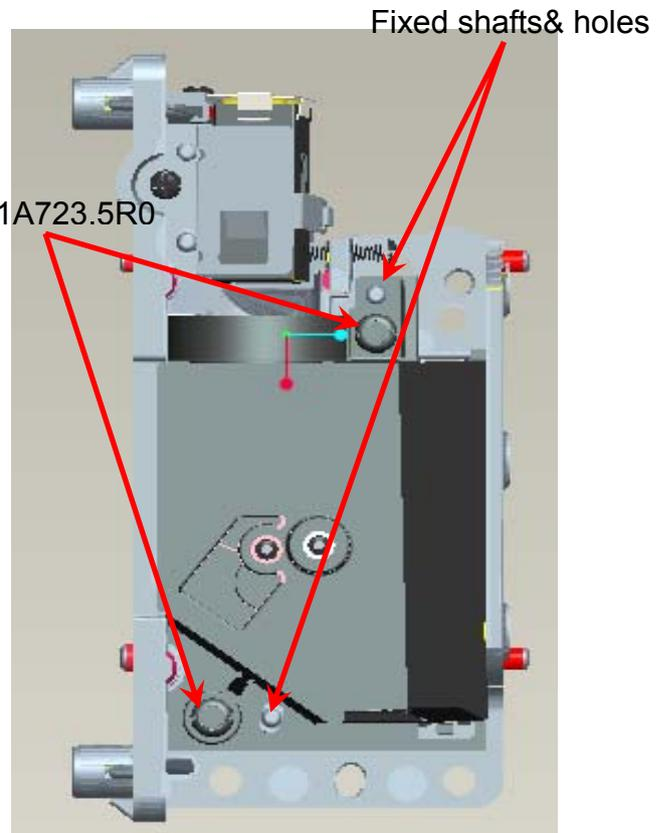

Fig. 7-2
- 7.2 To assemble "HSG ILL SUB Module" with "HSG DMD" and cover over on "AL" and the then lock with screws(Fig. 7-2).